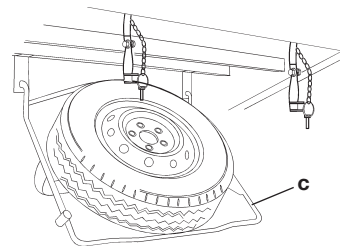

Fig.4
- d) Lower the carrier frame and wheel to the ground (Fig. 4).